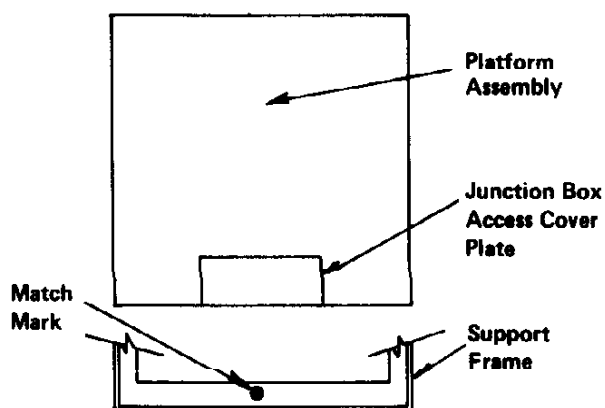

Figure 4
1. Place and orient the support frame at the desired weighing position while insuring that the indicator cable enters from a protected side of the scale. See Platform and Support Frame Installation Orientation Sketch in Figure 4.